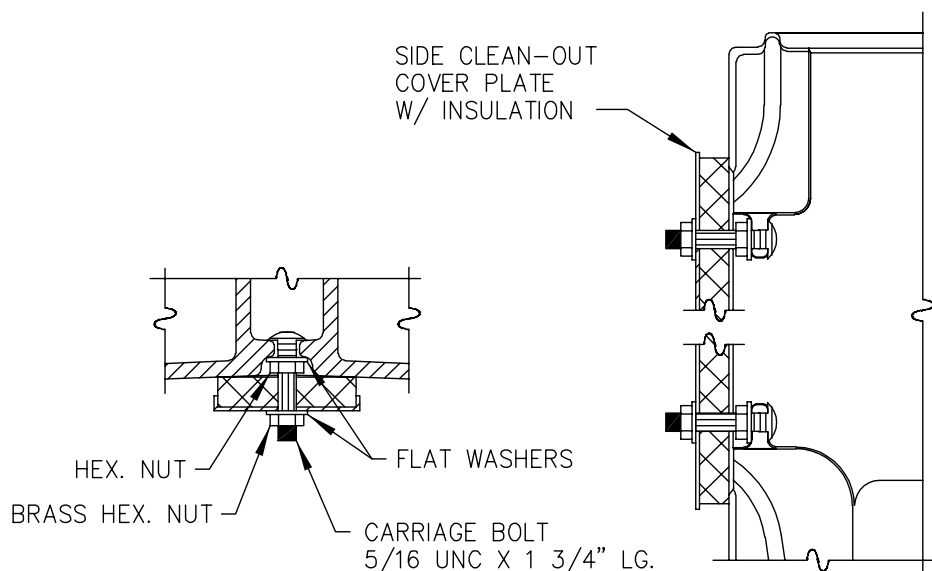

Figure 2.3: Cleanout Cover Assembly
3. Remove flue collector and insulation (Figure 12.1, item 7). Each cleanout cover plate is attached to the boiler by using two carriage bolts, nuts and washers (6). Install the carriage bolts into the notch at the top and bottom of each cleanout opening, then secure them with a flat washer and steel nut, as shown in Figure 2.3, locking them in place. Press the cleanout plate with insulation over the protruding carriage bolts until the bolts punch through the insulation so a flat washer and brass nut can be installed. Tighten down the nuts, snugly compressing the insulation to form a good seal around the cleanout opening.